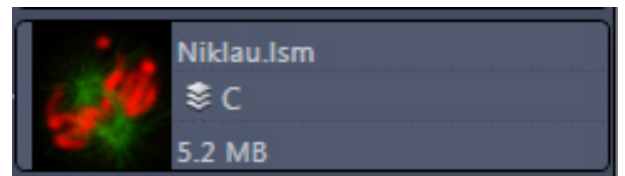

Fig. 334 2 Ch. Z-Stack image
- Example of a 2 Ch. Z-Stack displayed with a small thumbnail in the **Open Images** section (Fig. 334).